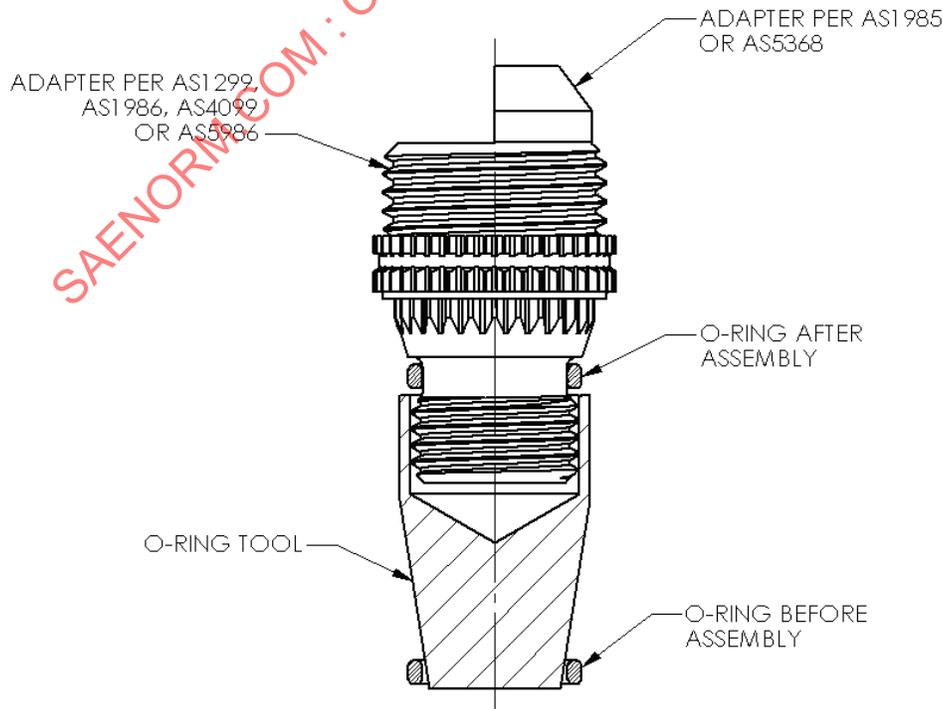

FIGURE 2 - O-RING INSTALLATION
- 5.1.1 Place the O-ring (per Table 2) over the small thread of the adapter. Submerge the adapter, O-ring tool and O-ring in the fluid to be used in the working system, or a lubricant compatible with the system fluid and all components. Slide the O-ring over the O-ring tool and onto the adapter. Be sure that the O-ring is not twisted and is properly seated in the groove of the adapter. See Figure 2.